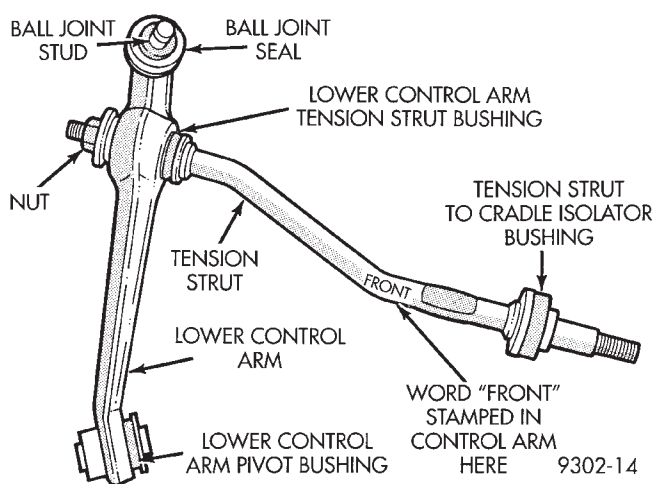

Fig. 33 Lower Control Arm And Tension Strut
(8) Inspect lower control arm and tension strut (Fig. 33) for distortion. Check all bushings for signs